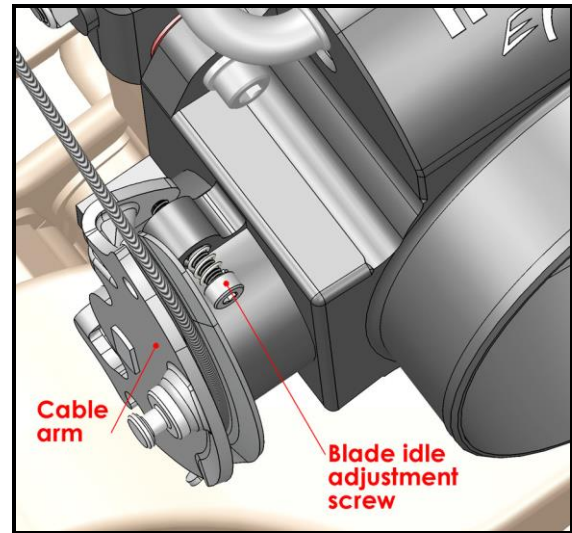

Figure 8
- If idle is high, confirm the throttle cable is adjusted to allow the lever arm to rest on the blade idle screw (**Figure 8**) and the cable is not holding the blade open.
2. Turn the blade idle adjustment screw (**Figure 8**) clockwise in small increments to increase idle as needed.